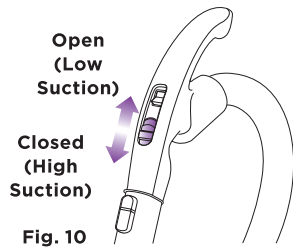

Fig. 10
- 3 Adjust the amount of suction with the control on the handle. Open it for low suction when doing light jobs such as drapes or fine surfaces and close it for high suction and when using the hand held turbo. (Fig. 10)